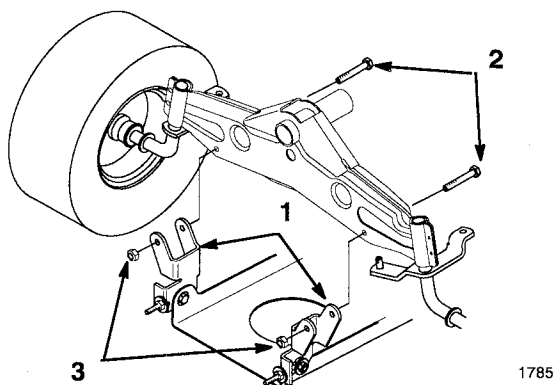

Figure 43
5. Install the mower pivot mount brackets to the front axle with bolts and locknuts (Fig. 43).